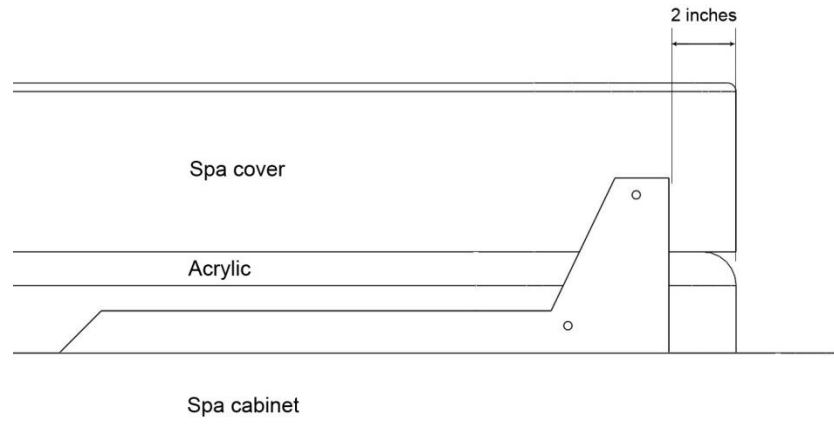

Figure 5a
- a. Align the Channel Bracket (cvBB) flush against the rim of the spa. The rear of the Channel Bracket (cvBB) should be 2" from the back edge of the spa, as shown in Fig 5a.